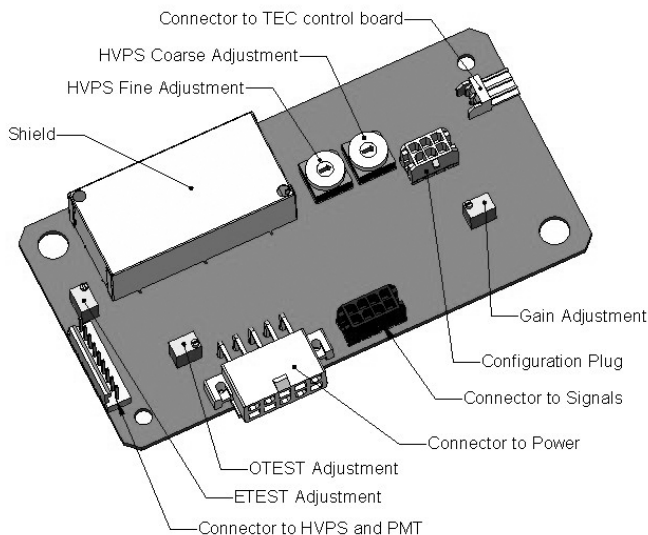

Figure 6-29. Pre-Amplifier Board Layout
5. Locate the following components on the Preamp board (Figure 6-29):
7. Locate the following components on the Preamp board (Figure 6-29):
8. Set the HVPS coarse adjustment to its minimum setting (0).
9. Set the HVPS fine adjustment switch to its maximum setting (F).